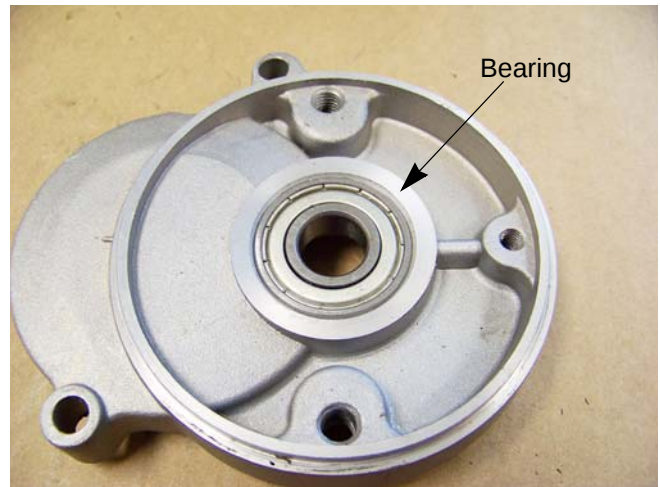

Figure 6.19
2. Press the rotor's upper bearing into the clutch/pinion cover until it is flush with the cover. See Figure 6.19.